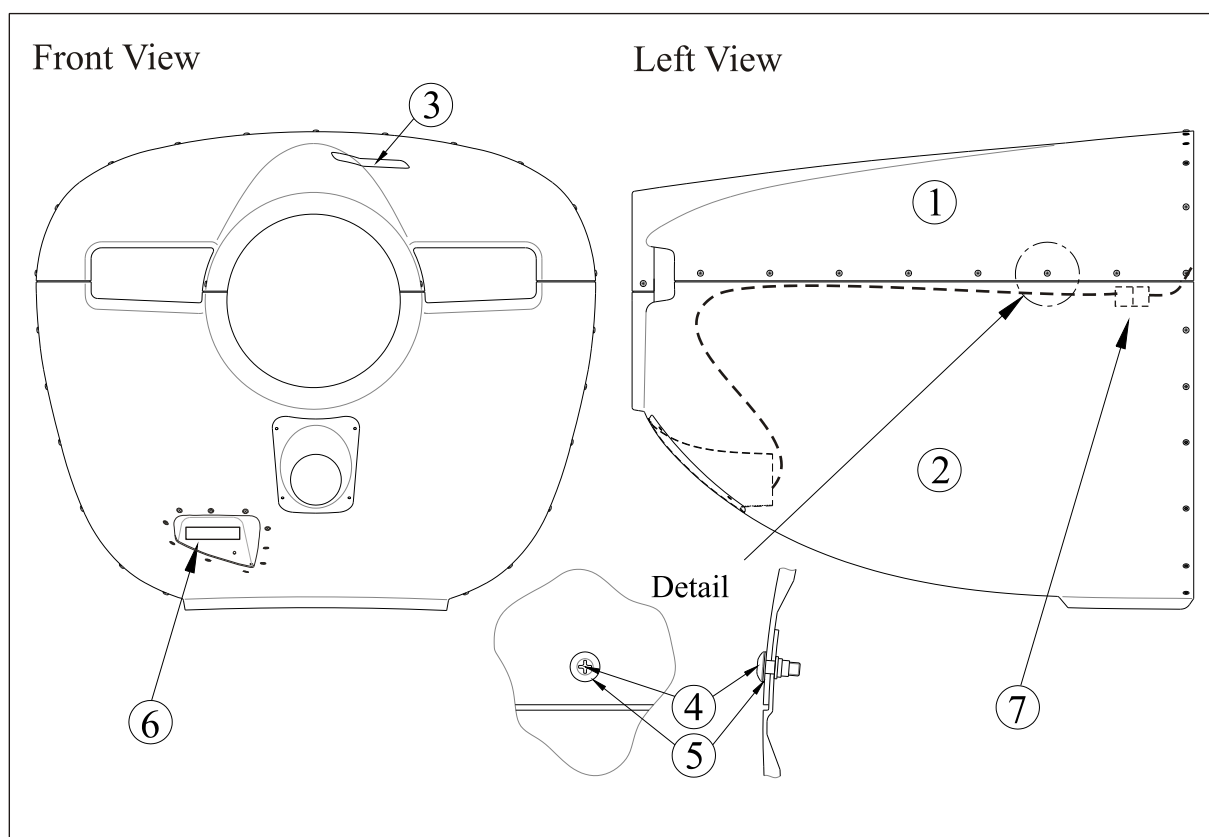

Figure 1
The engine cowling is divided into two parts: The upper (1, Figure 1) and lower (2) cowling made of GFRP or CFRP honeycomb sandwich.
- 2 Remove the related truss head screws (4)&(5) of the upper cowling (see Figure 1).
- 5 Remove the remaining truss head screws (4)&(5) of the lower cowling (see Figure 1).